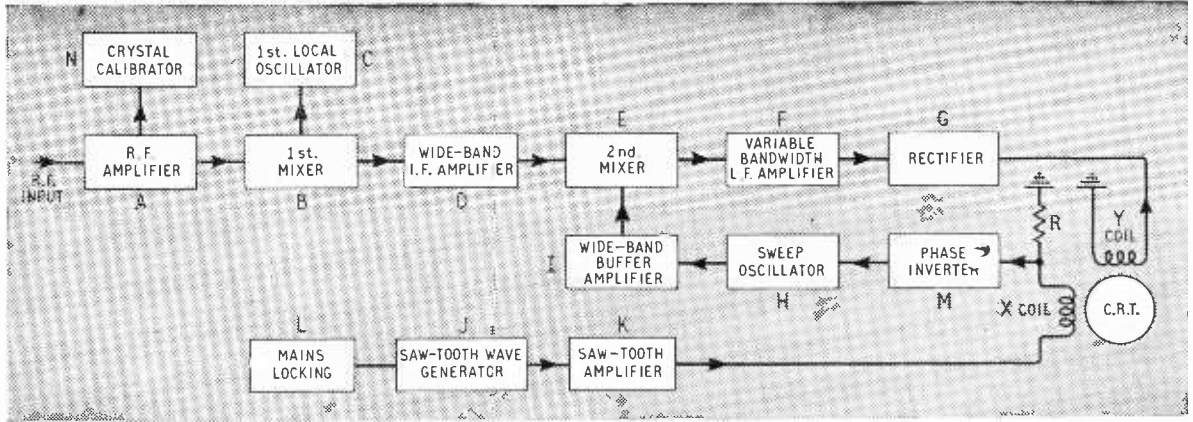

Fig. 1. Block diagram of panoramic receiver.
**Principle of Operation.**—Fig. 1 shows a block diagram of the general arrangement. The first local oscillator C determines the mean frequency of operation and the second local oscillator H determines the sweep bandwidth. A received signal in the band under examination is first amplified by a broad-band r.f. amplifier A. This feeds a first mixer B where the signal is converted to an i.f. by mixing with output from C. The signal after amplification in a wide-band i.f. amplifier D is then converted by mixing with the output from the frequency-modulated sweep oscillator H to produce a second i.f. at the second mixer E. This is a swinging frequency from which a narrow band is selected by the amplifier F. The width of the pass band of this amplifier determines the width of the displayed pulse. For obtaining the highest resolution this should be adjustable so that the narrowest width consistent with the rate of frequency scanning can be used.
Output is taken from the first cathode follower in the ring sequence at a very low level, and drives a wide-band "buffer" amplifier (I in Fig. 1) for feeding to the mixer. This amplifies the signal to the required level and prevents frequency-pulling by strong signals near the zero beat condition. The relationship between oscillator frequency and voltage applied to the grids of the cathode followers in the oscillator is not quite linear, but this is corrected as described later.
and still provides a trace that can be viewed by the operator at a convenient distance. A saw-toothed waveform generator, J in Fig. 1, driving an amplifier K, produces the current for deflecting the base line of the c.r.t. and for controlling the frequency of the sweep oscillator. This operates at a repetition rate of 25 per sec., which is the lowest frequency that can be used without introducing appreciable flicker, and is locked by a circuit L to alternate cycles of the a.c. mains. Locking prevents instability of the viewed pulse due to beats between the saw-tooth generator and any stray magnetic field from mains transformers.